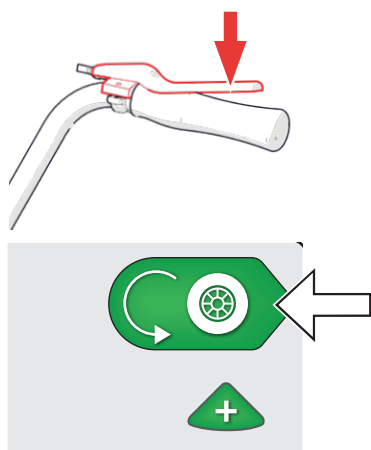

Fig. 15D - Activate drive with either the drive switch or drive start/stop button
6. Use the throttle to power the drive motor. Alternatively select 'Drive start/stop' on the display screen (Fig. 15D).